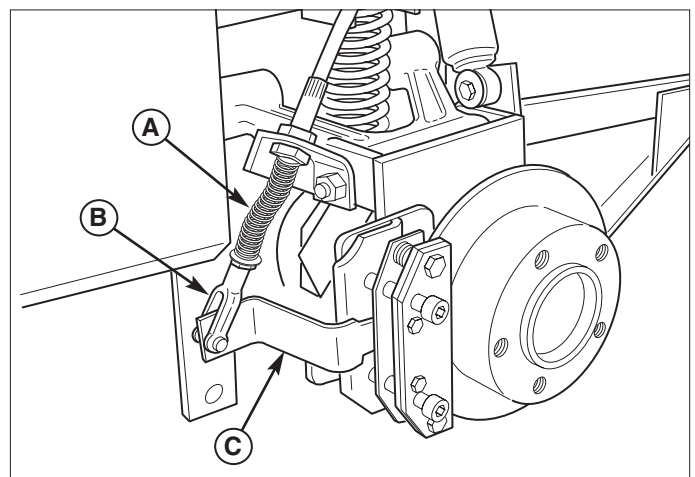

Figure 35. Parking Brake Adjustment
Loosen the mount hardware (A, Figure 30) and pivot the lever(s) (C, Figure 35) fore or aft to align with each other.
5. Locate the lower brake spring and adjustment clevis (A & B, Figure 35).
6. Release the parking brake and disconnect the clevis (B) from the caliper lever (C). Turn the clevis to compress or release the upper spring. Lock the nut against the clevis and reinstall the clevis onto the caliper lever.